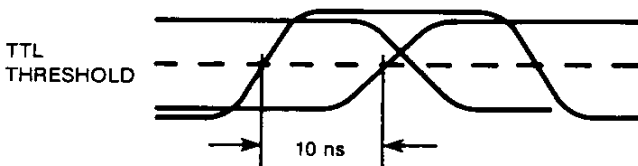

Figure 6.8
- b. Adjust W1 (R14) for 10 ns between the \overline{WE} rising edge and the first address edge. (See Figure 6.8).